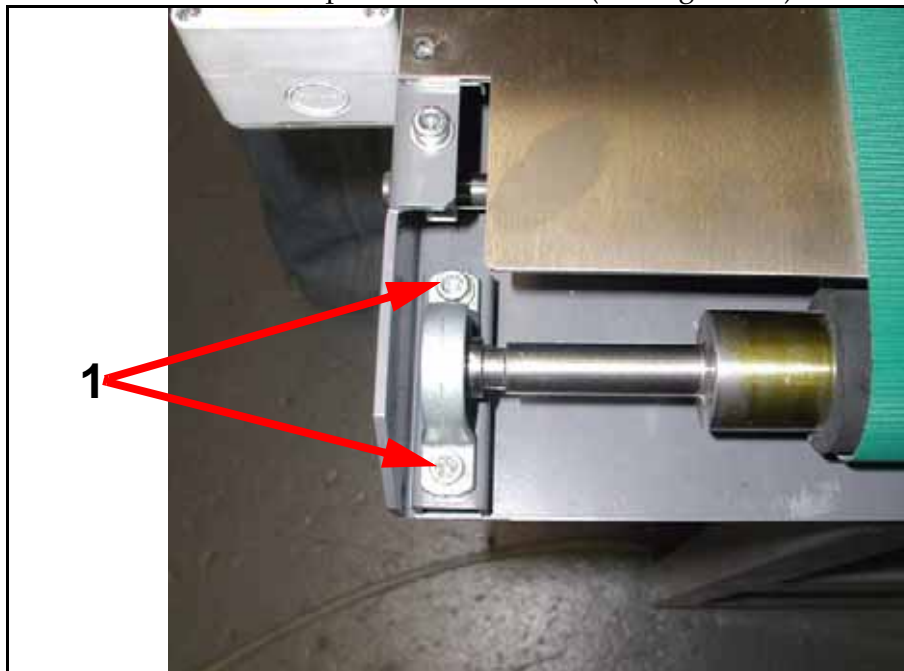

Figure 7-7. Left Pillow Block Screws
- 5 Unscrew left pillow block screws (1 in Figure 7-7).